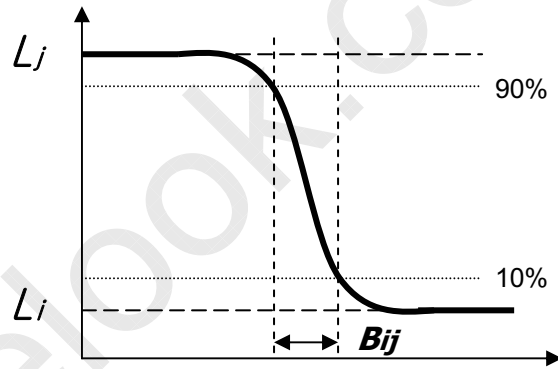

FIG. 4 MPRT
- MPRT is defined as the 10% to 90% blur-edge width Bij(pixels) and scroll speed U(pixels/frame)at the moving picture. For more information, see FIG 4